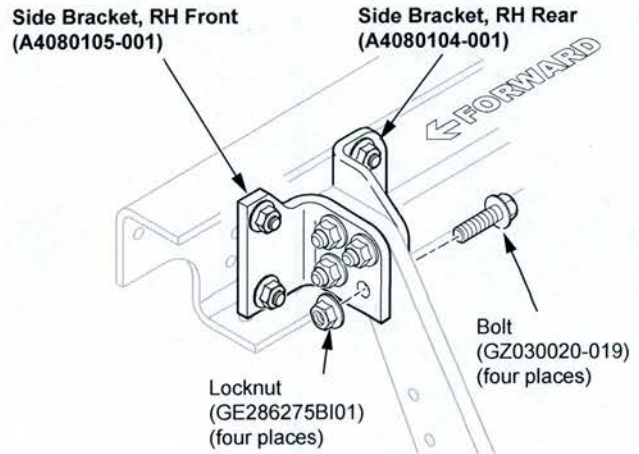

Figure 3
10. Install four (GZ030020-019) bolts and four (GE286262BI01) locknuts to the side bracket, RH front and side bracket, RH rear and cross member (see Figure 3).